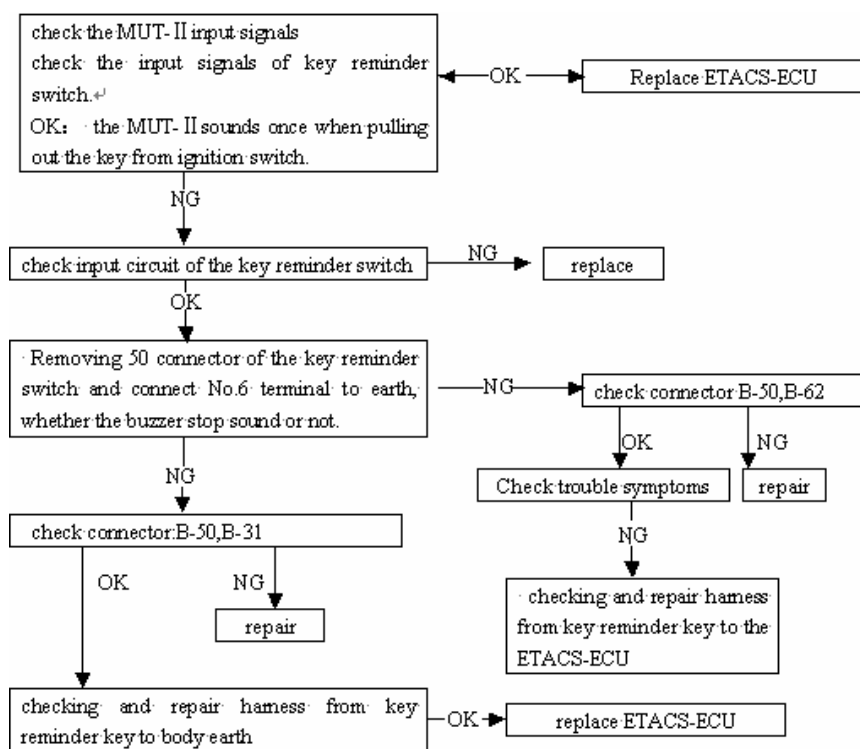

Fig 20—31
6) Trouble symptoms inspection step 4 as fig 20—32